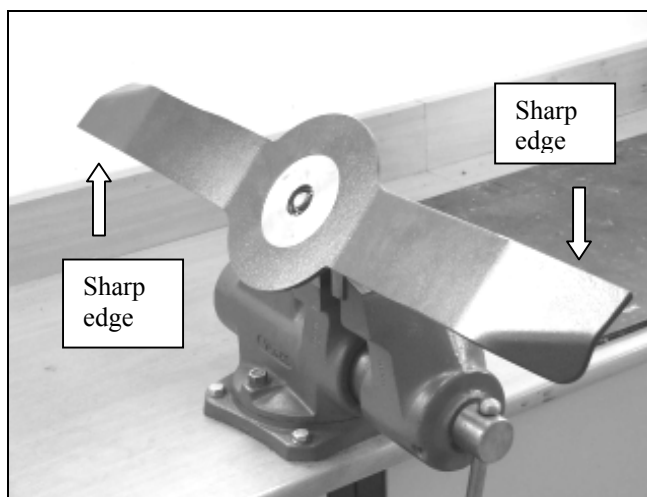

Fig. 60
- Set the blade on the cylindrical surface of the tool held in a vice (Fig. 60)
- When the blade is correctly balanced it will remain horizontal (Fig. 60)